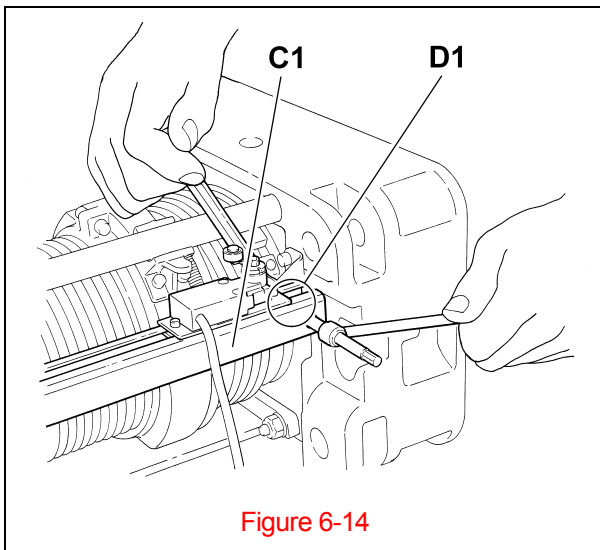

Figure 6-14
- 10) Gain access to the Rope Guide and associated components. Remove the Limit Switch Assembly (C1) removing the Screws (D1). Do not disconnect or change the setting of the Limit Switches (see **Figure 6-14**).